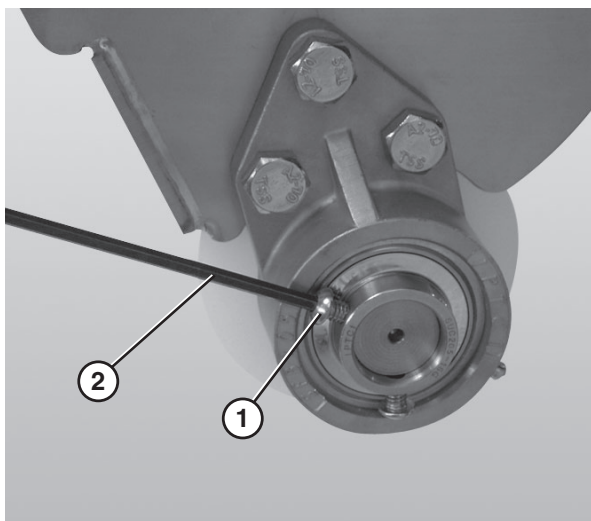

Figure 58
6. Loosen the 3 hole flange (**Figure 58, item 1**) with bearing fasteners using a hex wrench (**Figure 58, item 2**).